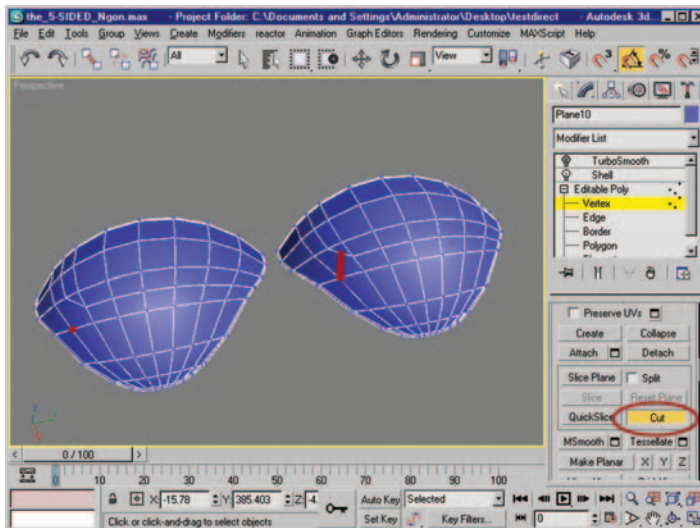

Figure 6.62 Starting vertex, highlighted, and diagonal edge created using the Cut tool.
6. Using the Cut tool, we are going to create an edge from the vertex shown in Figure 6.62 to the midpoint of the diagonal edge we just created. The result is an all-Quad mesh. You are left with one four-sided Tri and two other newly created Quads.